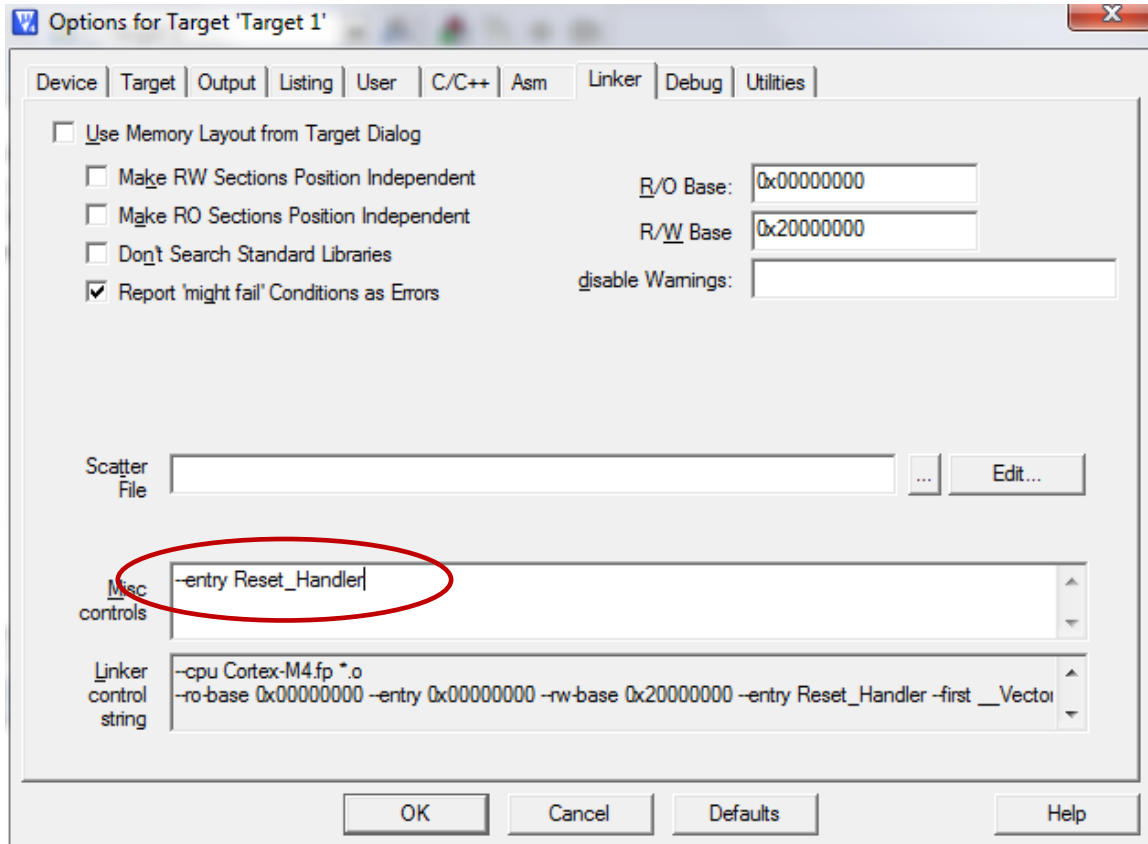

Figure 27
12. **Configure Linker Tab.** In the linker section, you must add **—entry Reset_Handler** to the Miscellaneous controls box (see Figure 27).